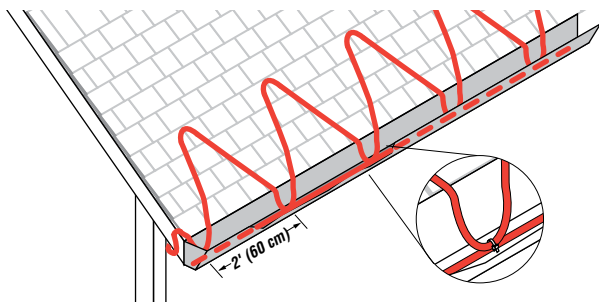

Figure 5: Layout in a zig-zag pattern
For sloped roofs, ice dams may form at the roof edge. To maintain a continuous path for melt water runoff, route the heating cable in a zig-zag pattern as shown in Figure 5 and follow the appropriate attachment recommendations in “Attachment Methods,” page 29. Additional heating cable may be needed for other gutters, downspouts, and valleys.
- Install the heating cable on the roof in a zig-zag pattern as shown in Figure 5.
Note: Attachment methods are not shown in Figure 5. For attachment methods, proceed to “Attachment Methods,” page 29.
- Run the heating cable up one side of the seam, loop it over to the other side, and return it to the bottom of the gutter. Continue along the bottom of the gutter to the third seam and repeat the process (Figure 5). If the seams are more than 24" (60 cm) apart, trace every seam.
Note: *Attachment methods are not shown in Figure 5. For attachment methods, proceed to “Attachment Methods,” page 29.*